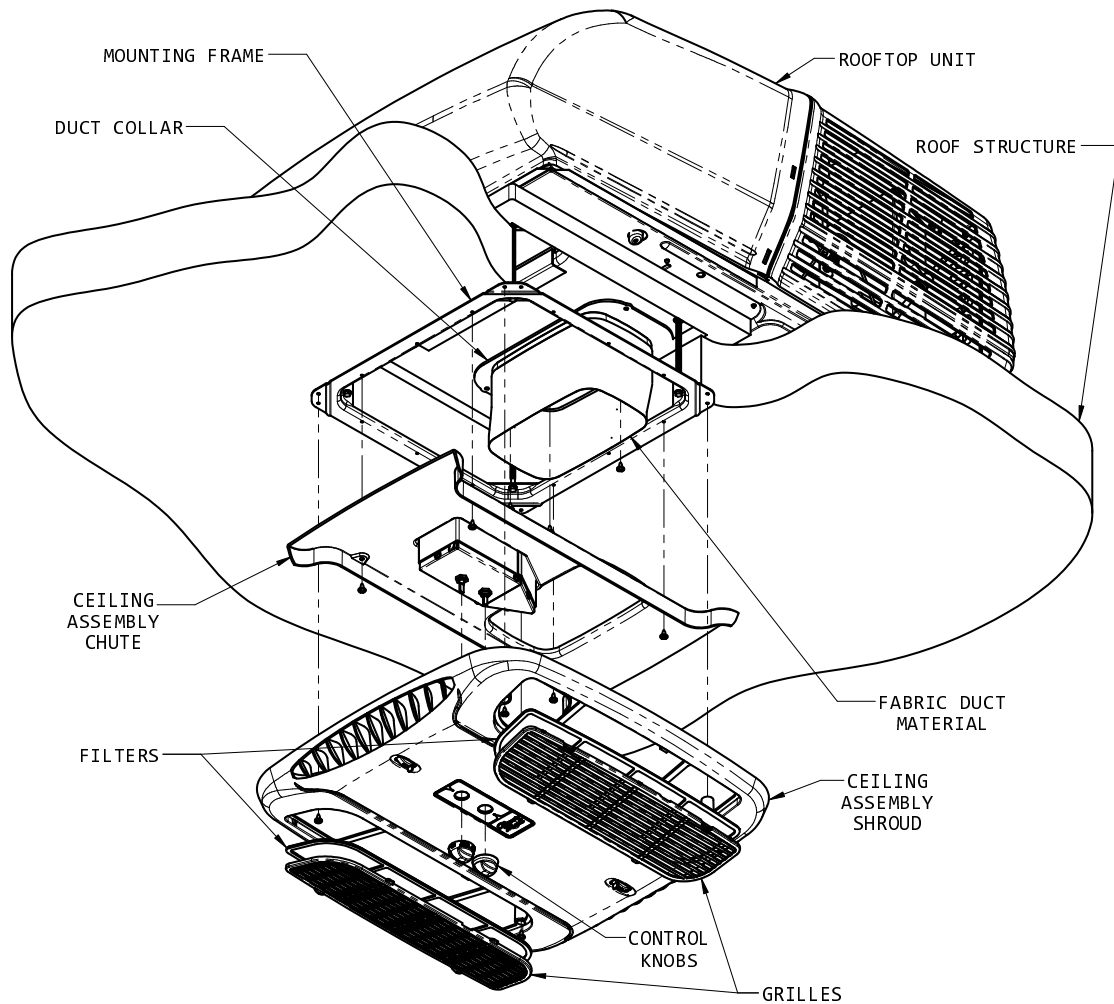

FIGURE 12
- B. Fasten the duct collar to the air conditioner basepan with 3 provided screws (See Figure 12).
- H. Raise the ceiling assembly chute to the unit mounting frame and secure the chute with 4 provided screws (See Figure 12).
- K. Raise the ceiling shroud and while insuring it meshes with the chute, secure to mounting frame with 4 provided screws (See Figure 12).